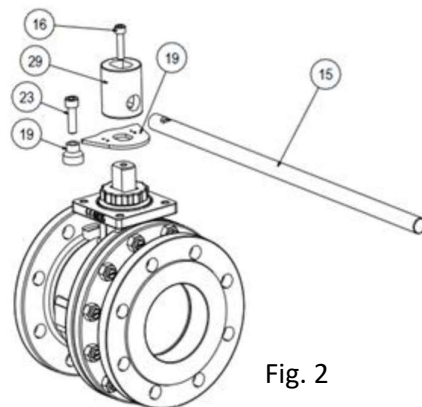

Fig. 2
- If the valve is manual, disassemble the lever as shown in Fig. 2.